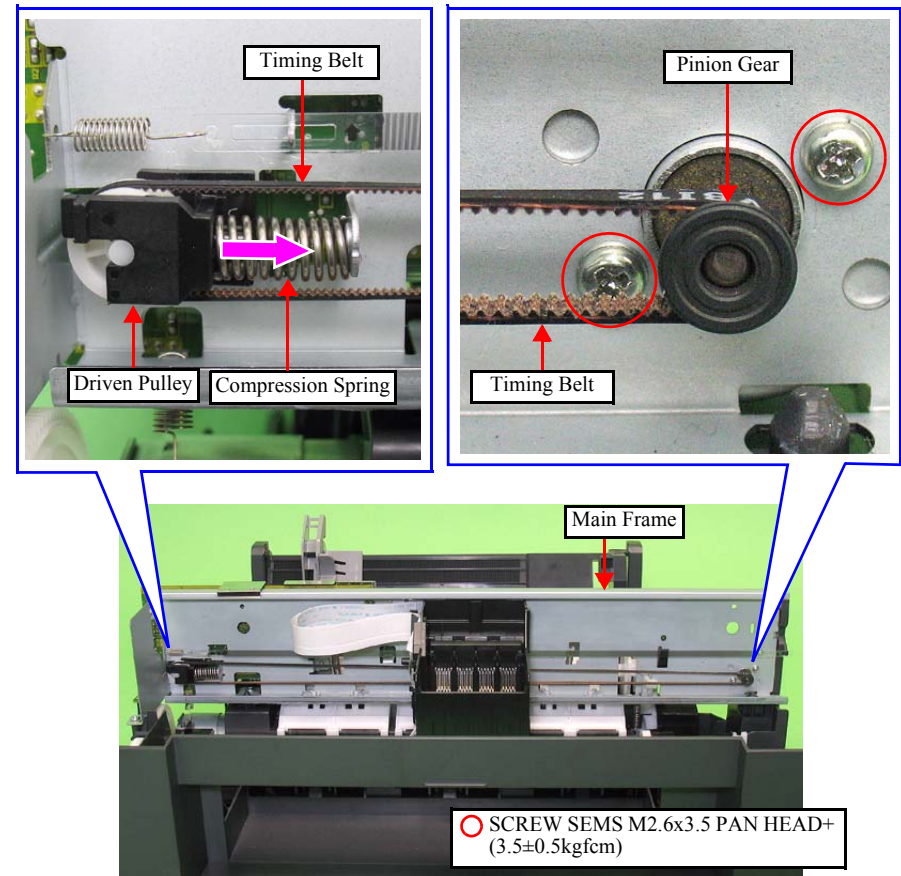

Figure 4-46. Removing the CR Motor (2)
2. Attach the Timing Belt to the Driven Pulley with toothed side facing inward. (See Fig.4-46.)
3. Install the Compression Spring between the protrusion of the Driven Pulley and that of the Main Frame. (See Fig.4-46.)
4. Slide the Driven Pulley to the CR Motor (in the direction of the arrow) taking care not to let the Timing Belt come off, and install the Timing Belt to the Pinion Gear of the CR Motor. (See Fig.4-46.)